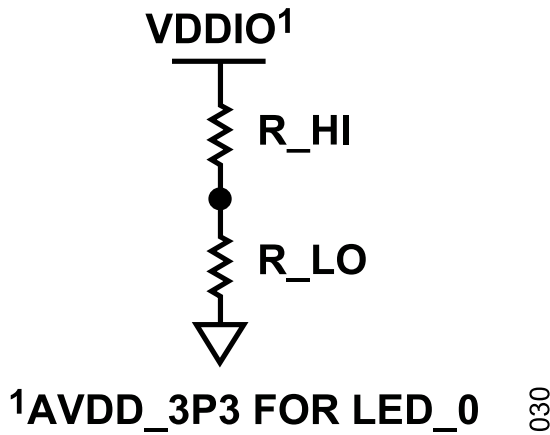

Figure 28. Hardware Configuration Pin Implementation
Hardware configuration pins are pins shared with functional pins and the voltage level on the pin is sensed and latched upon exiting from a reset. Some hardware configuration pins are multilevel sense, while others are two-level sense. Using two resistors, R_LO and R_HI (see Figure 28), four different voltage levels can be sensed, as shown in Table 21. Only MODE_1 (L) and MODE_4 (H) are relevant to the two-level sense pins and these are implemented with a 10 kΩ pull-down resistor or a 10 kΩ pull-up resistor, respectively. Note that LED_0 must be pulled up to the AVDD_3P3 rail rather than VDDIO.